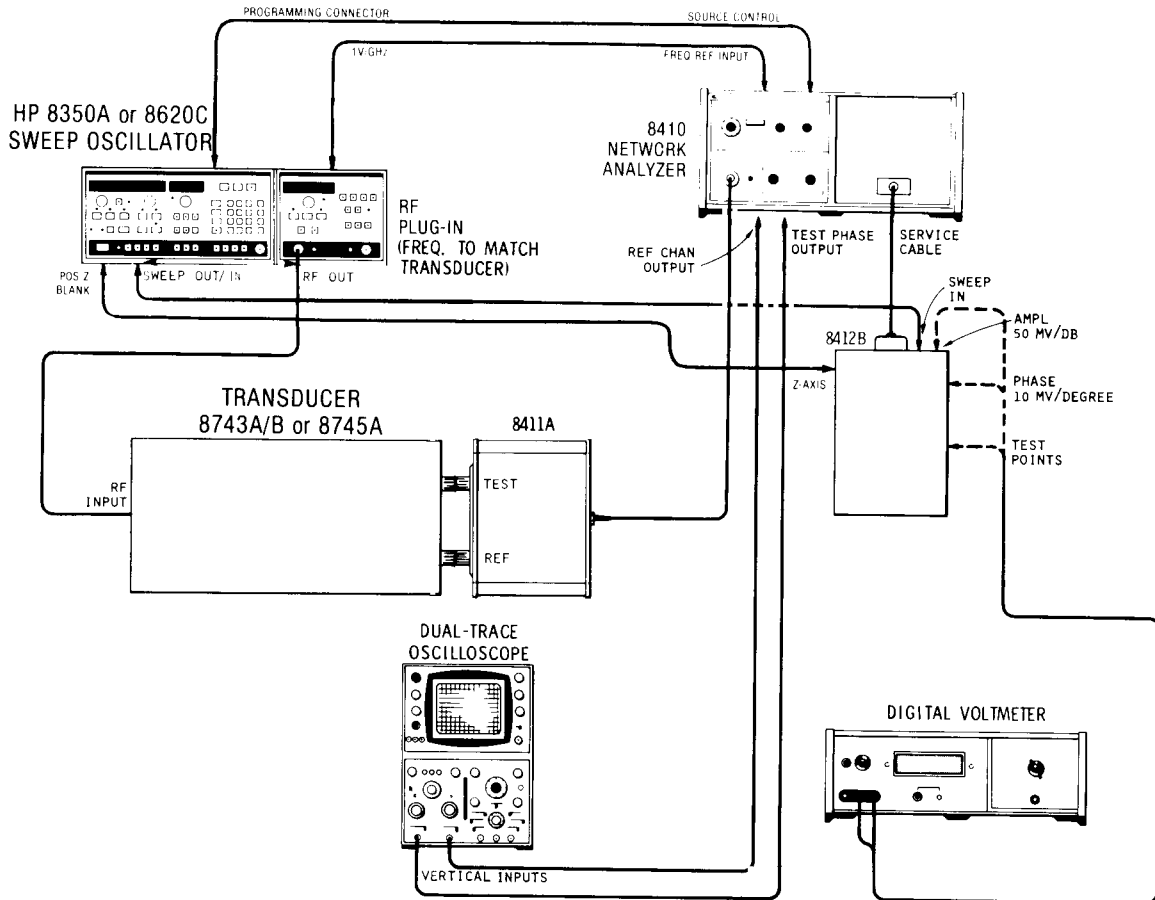

Figure 5-2. Equipment Setup for Adjustment Procedures with 8410-Series Mainframe
- a. Connect equipment as shown in Figure 5-2. Set sweep oscillator for swept mode over as narrow a band as possible. Adjust 8410 SWEEP STABILITY control and sweep oscillator RF output for RF CHANNEL LEVEL meter indication in the middle of the OPERATE range.
- a. Connect equipment as shown in Figure 5-2.